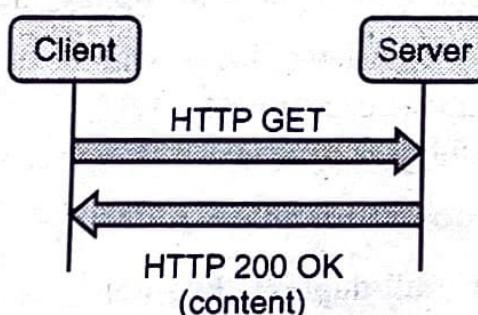

Fig. Q.10.1 Request/Response model
- In the Request/Response model, client requests information from the server and waits till the response is served from the server. Fig. Q.10.1 shows Request/Response model.